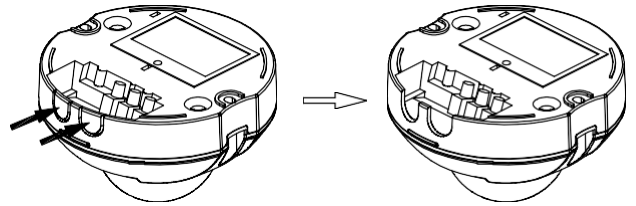

FIGURE 6
- (1) Switch off the power source or wall switch.
- (2) There are two knockout holes on the side of the unit. If the wires come directly from the ceiling, you can make the wiring without breaking the knockout holes. However, if the wires come from a distance away, then you should break the two knockout holes to enable the power and lamp wires to go through smoothly. (FIGURE 6)